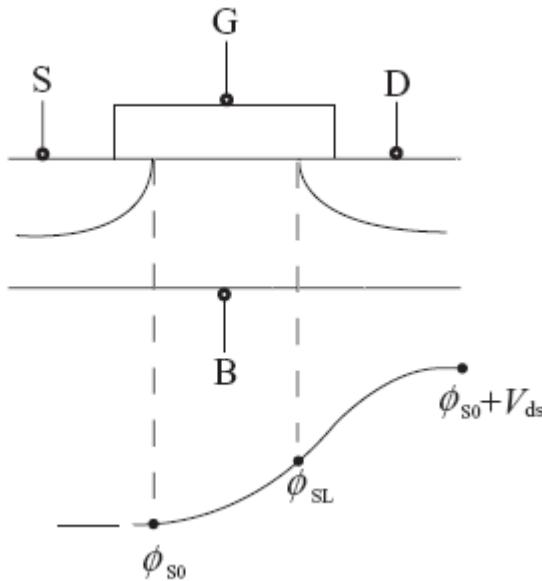

Figure 17 Schematic of the surface potential distribution in the channel
HSPICE supports HiSIM_HV version 1.0.1 and 1.0.2 to address the need for accurate modeling of high-voltage MOSFETs, Hiroshima University and STARC developed the HISIM-HVMOS model as an extension to the IGFET model. The HVMOS model focuses on symmetrical structure while the HiSIM-LDMOS model is used for asymmetrical structures. According to the *HiSIM_HV User Guide*: the most important advantage of the surface-potential-based modeling is the unified description of device characteristics for all bias conditions. The physical reliability of the drift-diffusion theory has been proved by 2-D device simulations with channel lengths even down to below 0.1 μm . To obtain analytical solutions for describing device performances, the charge sheet approximation of the inversion layer with zero thickness has been introduced. Together with the gradual-channel approximation all device characteristics are then described analytically by the channel-surface potentials at the source side (S0) and at the drain side (SL) (see Figure 17).